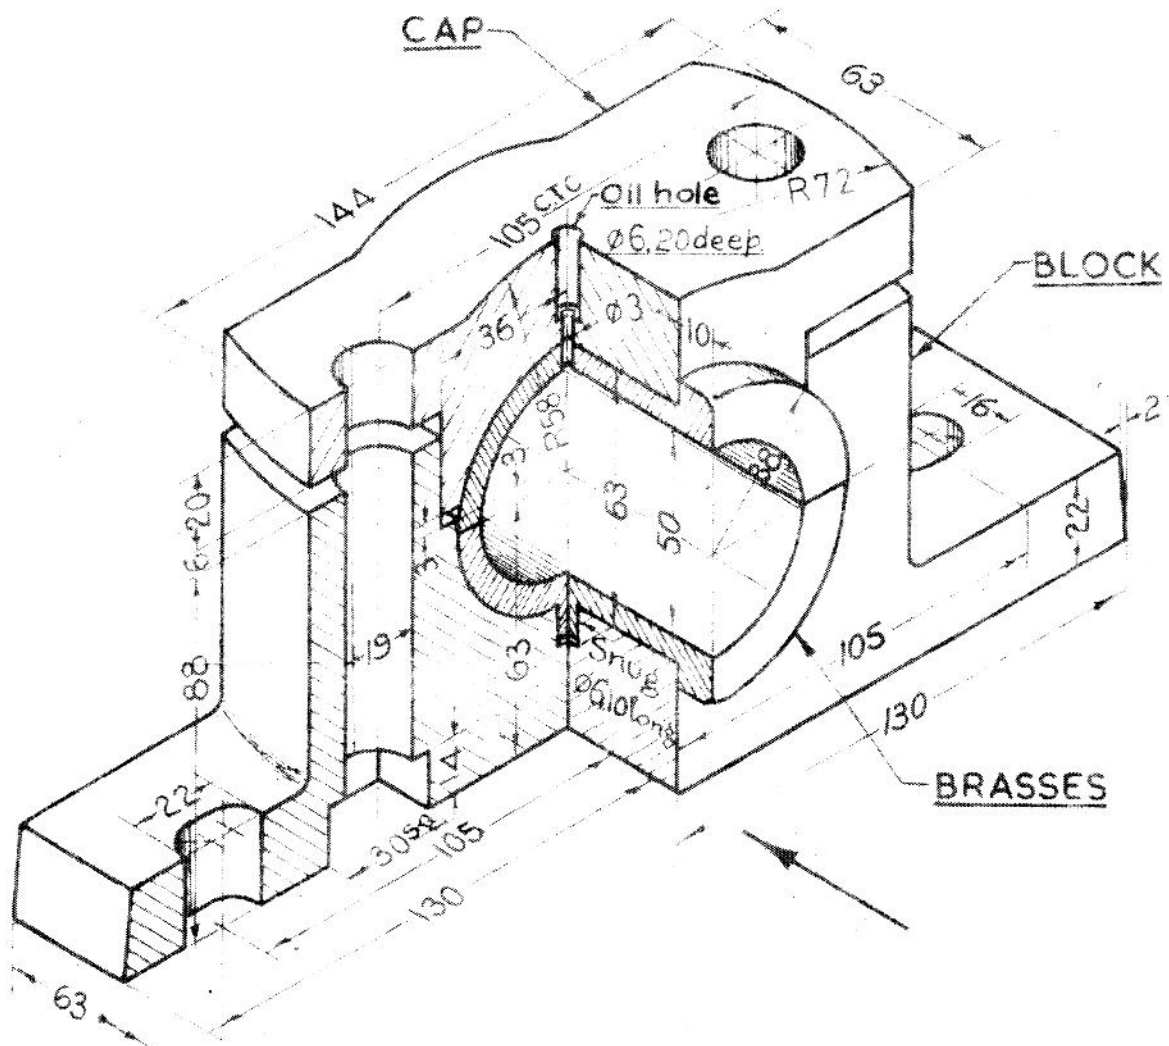

Fig. Q3
3. The isometric view of the plummer block is shown in Fig. Q3. Draw detailed drawings of the individual components shown in Fig. Q3. 60